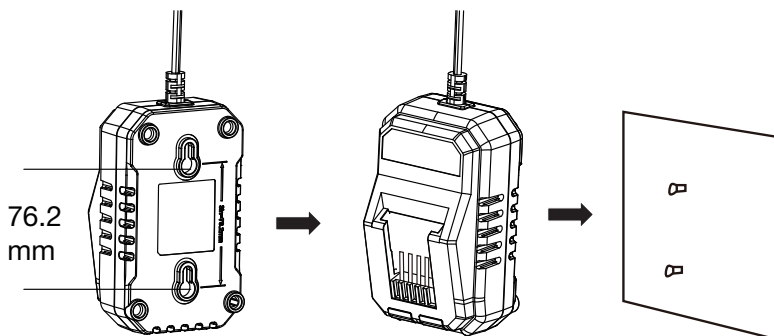

Figure 3
3. WALL-MOUNT HOLES (SEE FIG. 3)